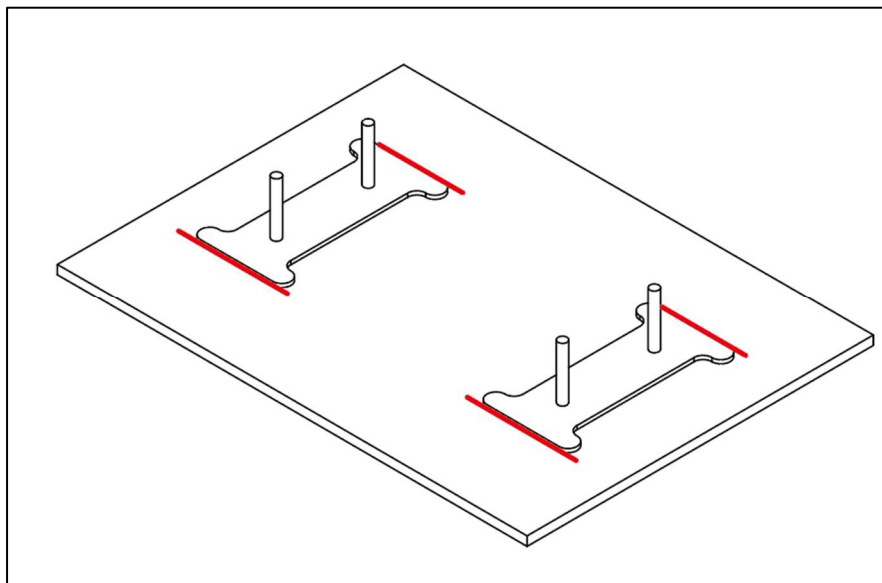

Figure 12.- Welding mounting accessories process
3. Once the outline is marked, remove the mounting accessories, and weld them to the mounting surface as shown in red in Figure 12.